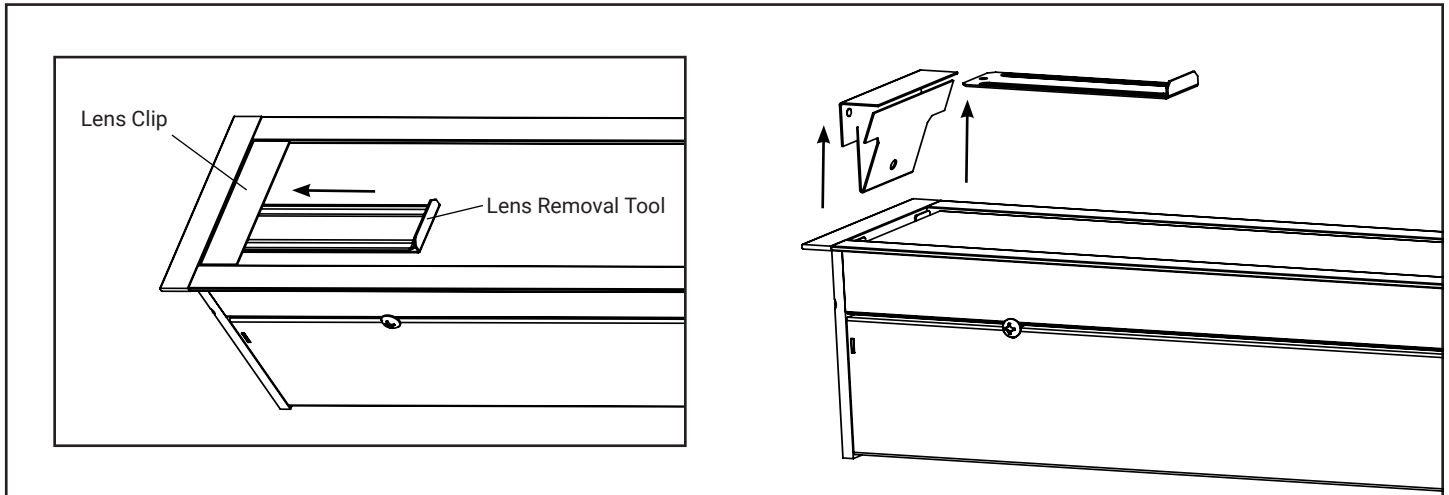

Figure 5
1. Remove the lens clips using the provided lens removal tool. Slide the tool under the clip and lift each corner until the clip pops out of the fixture. (Figure 5)